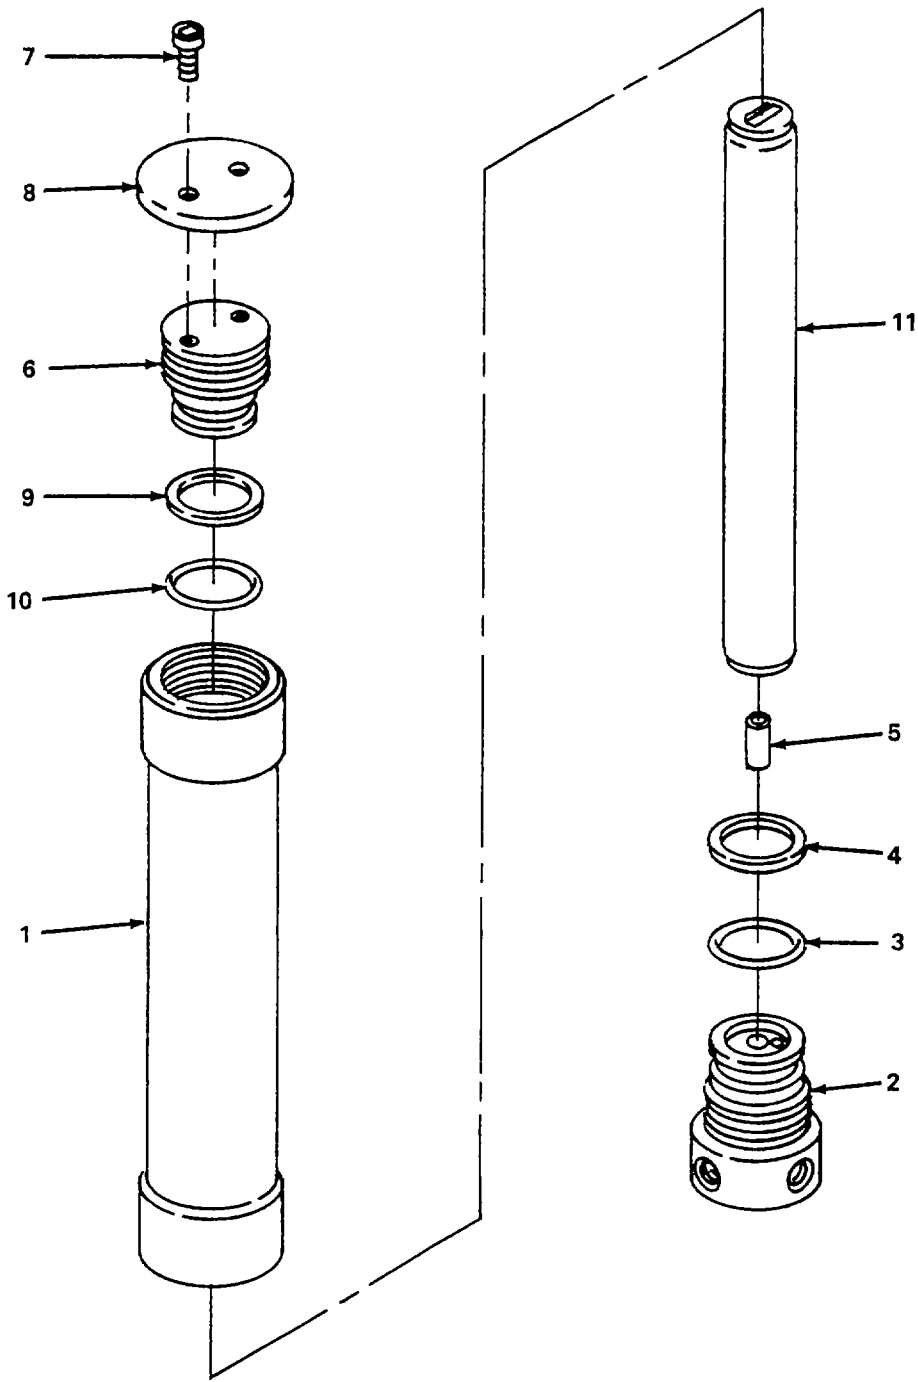

Figure 5-5. Purifier Assembly, Repair.
c. *Repair.* (figure 5-5)**WARNING**